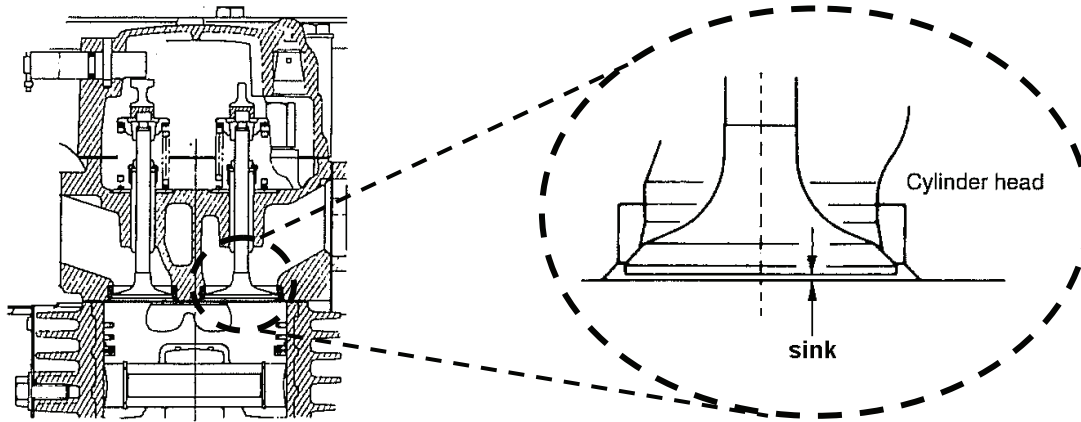

Figure 3. Valve Sink Measurement.
5. Measure the valves sink. The service limit is 0.05 inch (1.2 mm). Replace worn out valves if sink is over the limit. See Figure 3.